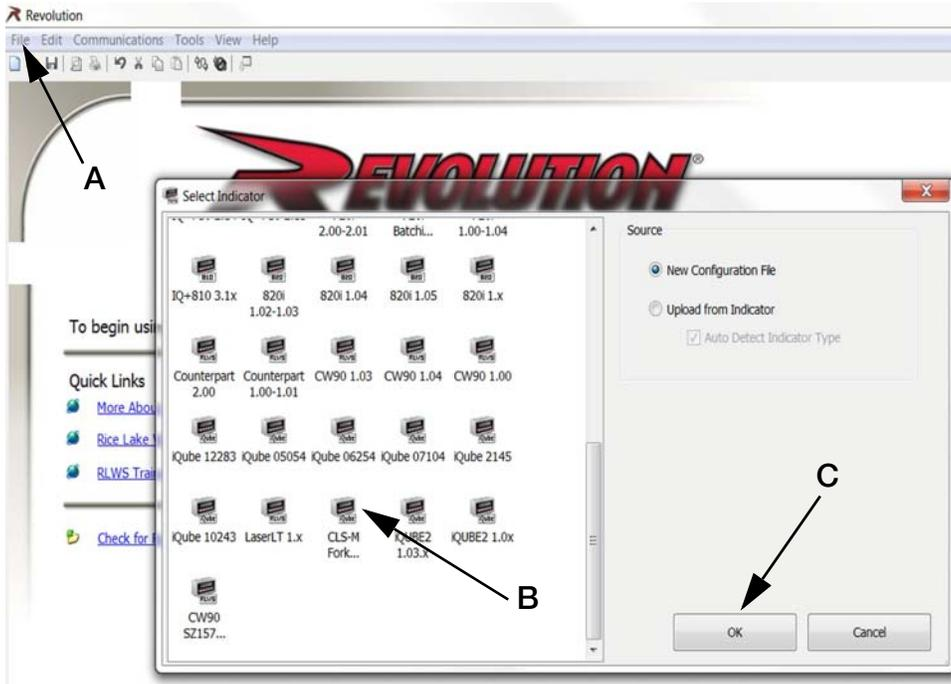

Figure 4-12. Open Revolution to CLS-M Module
2. Select File/New (Fig. 4-12 A).
3. Select CLS-M Forklift (Fig. 4-12 B)
4. Press OK (Fig. 4-12 C).